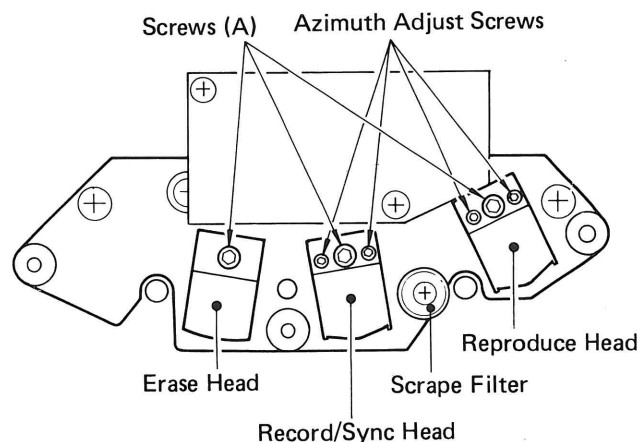

Fig. 7-27. Head Adjustment Screws
2. While observing the VU meters, temporarily increase the back tension to the left reel by lightly applying pressure by hand. If sufficient contact pressure is applied to the head while the tape is running, no change will be noticed on the meter when the back tension is increased. However, if insufficient pressure is applied to the head, the deflection needle will show increased deflection due to contact pressure caused by the back tension. This method will help determine whether head contact is properly adjusted or not. To adjust, loosen the retaining screw (A), that'll be the center screw at the rear of the head as shown in Fig. 7-27. Then, change the direction of the head for proper alignment.
3. With the test tape signal at 16 kHz, determine the point where maximum level of each channel is obtained and retighten the retaining screws (A) at that position.